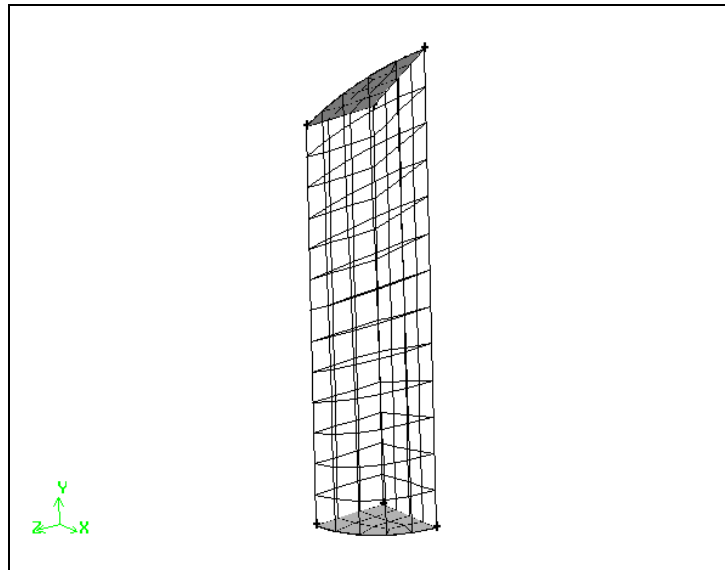

Figure 4-26: Mesh generated for the second small volume in the burner geometry
*The mesh is shown in Figure 4-26.*